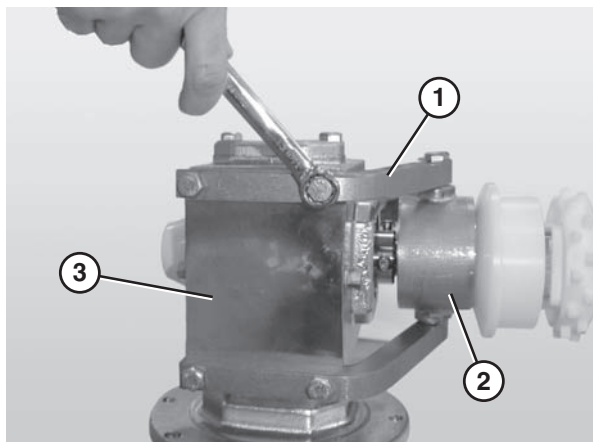

Figure 20
3. Attach the gear reducer mounting bars (**Figure 20, item 1**) to the gear reducer mounting bracket (**Figure 20, item 2**).
4. Attach the gearmotor assembly (**Figure 20, item 3**) to the gear reducer mounting bars (**Figure 20, item 1**).